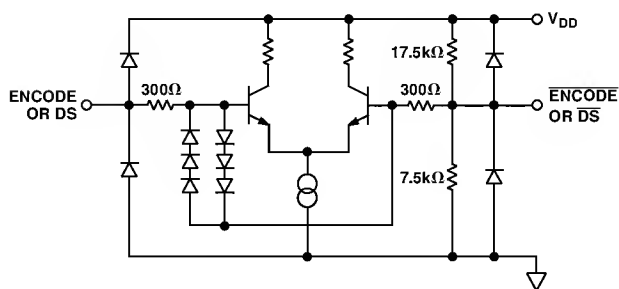

Figure 5. Equivalent ENCODE and Data Select Input Circuit
³t_Y and t_{PD} are measured from the threshold crossing of the ENCODE input to valid TTL levels of the digital outputs. The output ac load during test is 5 pF (Refer to equivalent circuits Figures 5 and 6).
ENCODE and Data Select (DS) can be driven differentially or single-ended. For single-ended operation, the complement inputs ($\overline{\text{ENCODE}}$, $\overline{\text{DS}}$) are internally biased to $V_{DD}/3$ (~1.5 V) by a high impedance on-chip resistor divider (Figure 5), but they may be externally driven to establish an alternate threshold if desired. A 0.1 μF decoupling capacitor to ground is sufficient to maintain a threshold appropriate for TTL or CMOS logic.
Note the 6-diode clock input protection circuitry in Figure 5. This limits the differential input voltage to $\sim \pm 2.1$ V. When the diodes turn on, current is limited by the $300\ \Omega$ series resistor. Exceeding 2.1 V across the differential inputs will have no impact on the performance of the converter, but be aware of the clock signal distortion that may be produced by the nonlinear impedance at the converter.